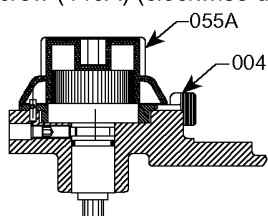

Fig.13a Maxroy A - D adjustment knob
the blocking ring (004) (anti-clockwise direction) for the maxroy A (Fig.13a).